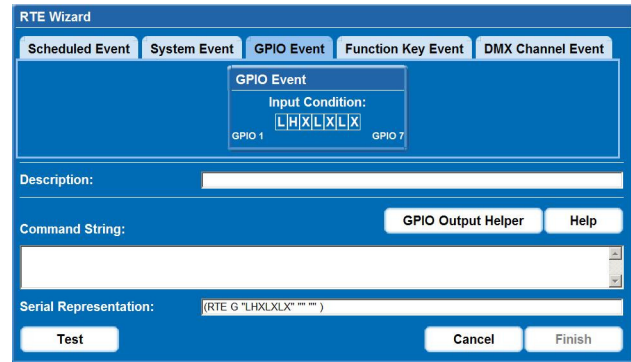

FIGURE 4-19 GPIO EVENT
3. For the **GPIO Event** option define the **Input Condition** field as required. The **Input Condition** field contains 7 blocks which refer to the 7 I/O pins on the GPIO connector. Pin 1 = +12V and Pin 5 = Ground are not included or changed. 2) Clicking a block toggles between H, L, and X as shown in *Figure 4-19 GPIO Event*. See *Appendix B*: for detailed information.